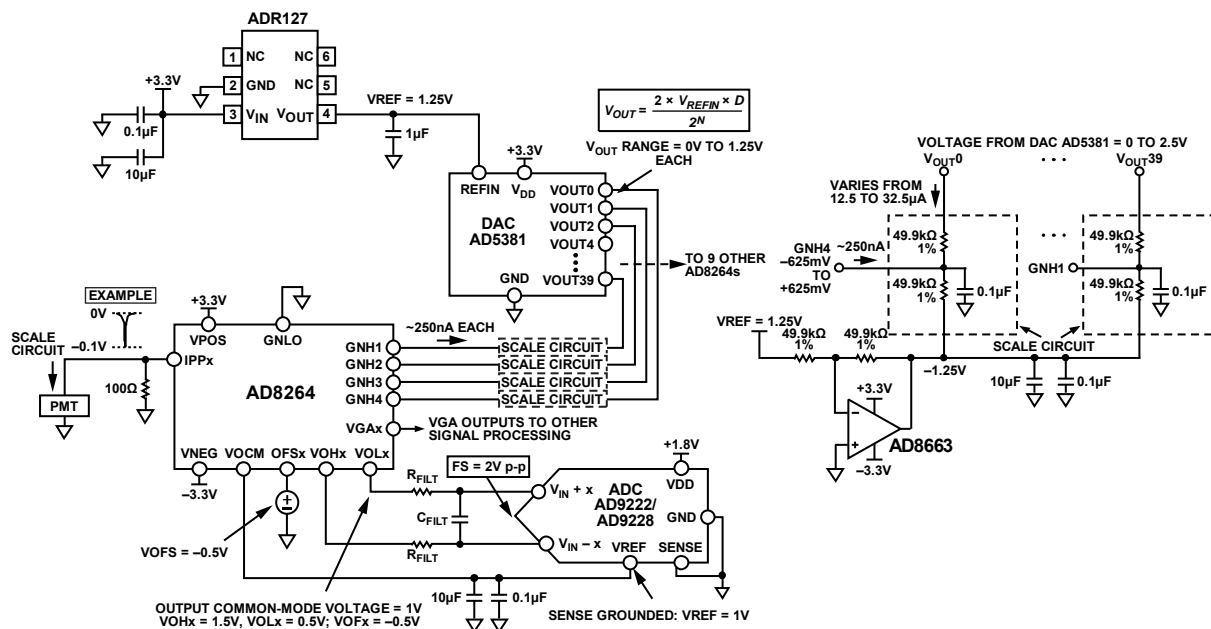

Figure 113. Concept Application of AD8264 with 40-Channel AD5381 12-Bit, 3 V DAC and AD9222/AD9228 12-Bit ADC
The dc connected concept example in Figure 113 is an application with the 40-channel AD5381, 3 V, 12-bit DAC. The main difference between this example and Figure 112 is that, for the same ADR127 1.25 V reference, the full-scale output of the DAC is from 0 V to $2 \times V_{REFIN} = 2.5$ V. Two options for gain control include the following:
- Ground GNLO and scale the DAC output so that the GNHx inputs vary from -0.652 V to $+0.625$ V. Figure 113 shows a possible circuit implementation using a divider between the DAC output and a -1.25 V reference.
Figure 113 shows how the AD8264 is connected in a PET application. The PMT generates a negative-going current pulse that results in a voltage pulse at the preamplifier input and a differential output pulse on VOLx and VOHx.
A convenient method of verifying and customizing the signal chains shown in Figure 112 and Figure 113 is by ordering the corresponding evaluation boards available on www.analog.com. The AD8264-EVALZ is a platform through which the user can quickly become familiar with the features and performance capabilities of the AD8264. See the Evaluation Board section for more information.